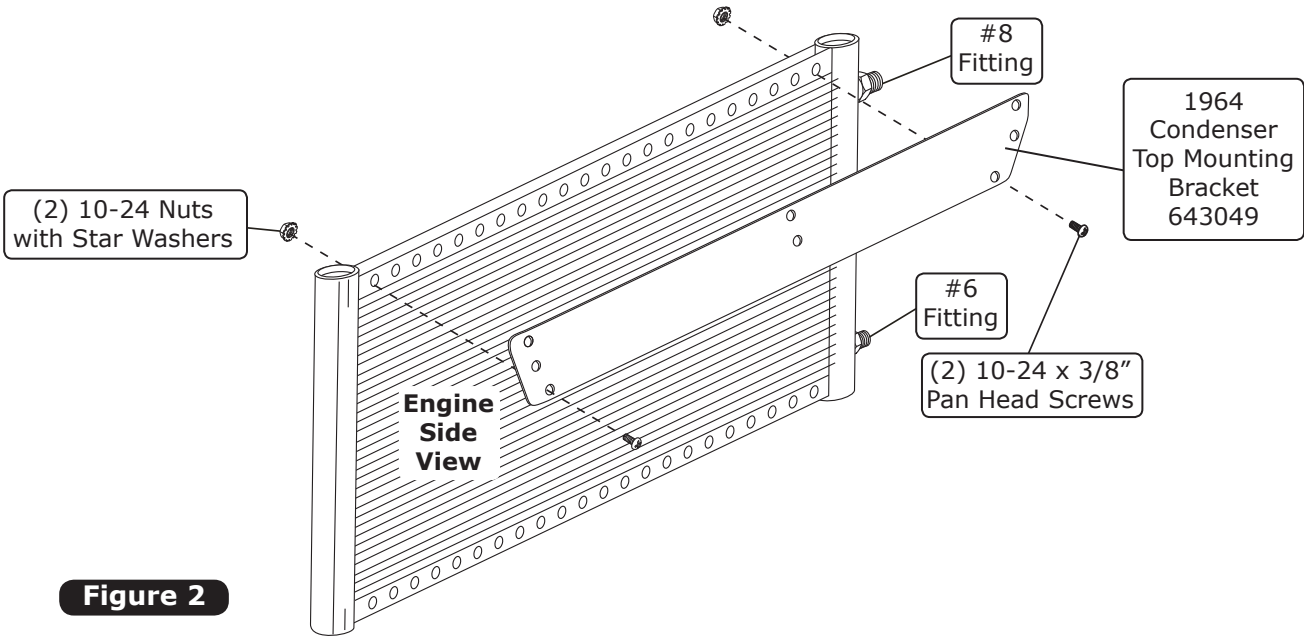

Figure 2
1. Install the top mounting bracket onto the condenser using (2) 10-24 x 3/8" pan head screws and (2) 10-24 nuts with star washers (See Figure 2, below). **NOTE: The bracket mounts through the 1st & last holes on the top of the condenser.**